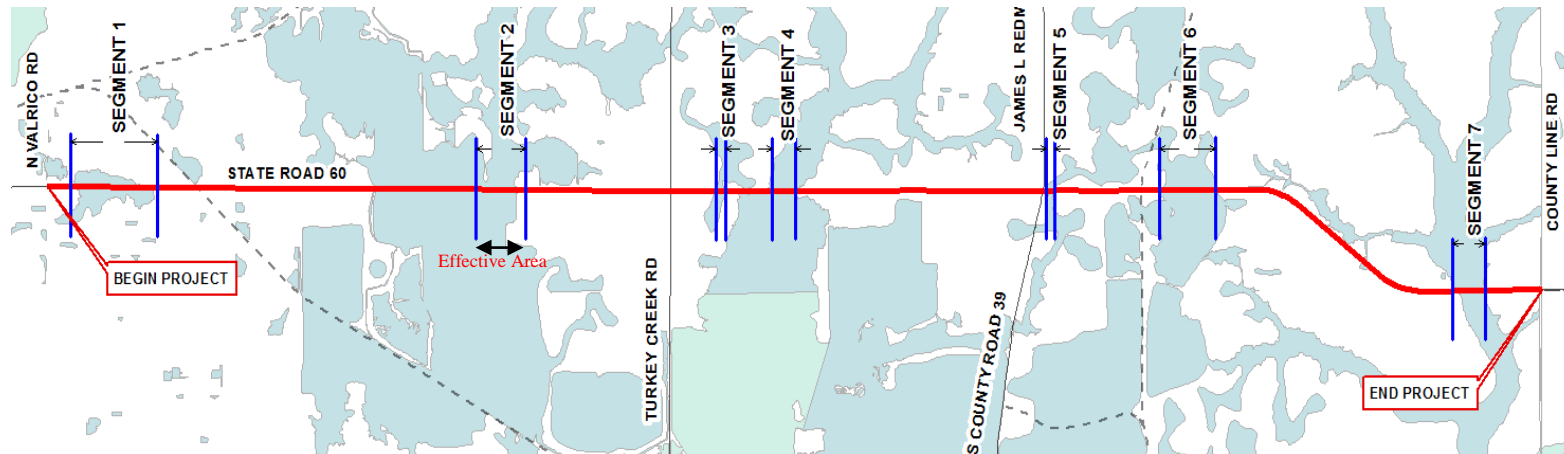

Figure 1 – Segments of Floodplain Impacts Area (FIA)
Any floodplain impacts will be mitigated for on offsite flood plain compensation sites, or cut ditch sections on a cup for cup basis. From the available data, an approximate Floodplain Impact Area (FIA) has been calculated (**Table 5**). Within the Project Limits and Right-of-Way, seven (7) FIA segments have been identified (**Figure 1**) which are impacted by 100-year floodplain (Zone A). For Segment 2, only the effective area has been taken beyond which the floodplain elevation is lower than the existing ground elevation.
See Exhibit 6 in Appendix 1 and Figure 1.